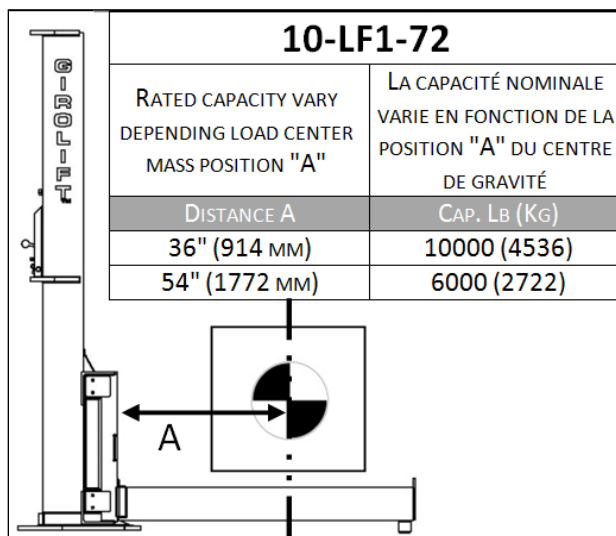

FIGURE 15 : CAPACITÉ NOMINALE EN FONCTION DU CENTRE DE GRAVITÉ SITUÉ SUR LES FOURCHES
5. DÉPOSER LE VÉHICULE SUR LES FOURCHES DE LEVAGE DE SORTE QU'IL SOIT LE PLUS PRÈS POSSIBLE DU TABLIER TANDIS QUE LE CENTRE DE GRAVITÉ DU VÉHICULE DOIT ÊTRE VIS-À-VIS LA COLONNE. VOIR **FIGURE 15**.
4. DÉPOSER LE VÉHICULE SUR LES FOURCHES DE LEVAGE DE SORTE QU'IL SOIT LE PLUS PRÈS POSSIBLE DU TABLIER TANDIS QUE LE CENTRE DE GRAVITÉ DU VÉHICULE DOIT ÊTRE VIS-À-VIS LA COLONNE. VOIR **FIGURE 15**.